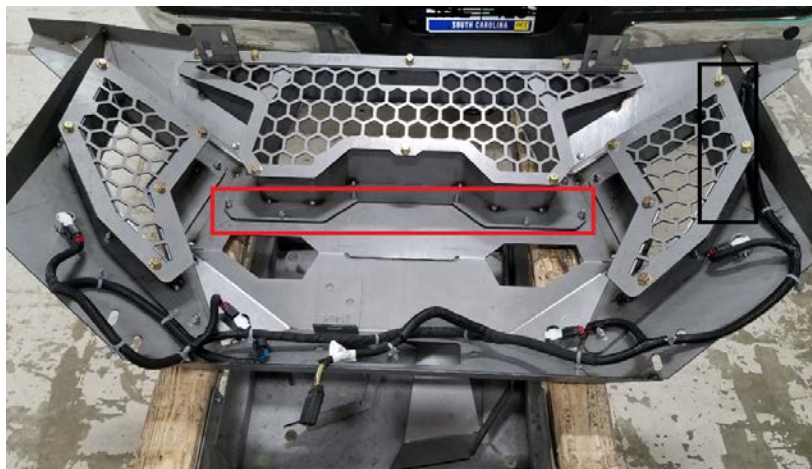

Figure 17
- D. Bolt inserts into the center grill section (Figure 17). Attach the inserts to the center grill using 5/16" Stainless Steel Button head screws, washers, and nuts. Attach the mesh pieces with 3/8" Yellow Zinc Hex Head bolts. Install the sensor housings in the provided holes. Do not Epoxy at this time. Use the OEM outer sensor housings and provided inner sensor housing in the same position as the OEM bumper. Push the sensors into the housings and attach the wiring harness to each sensor.